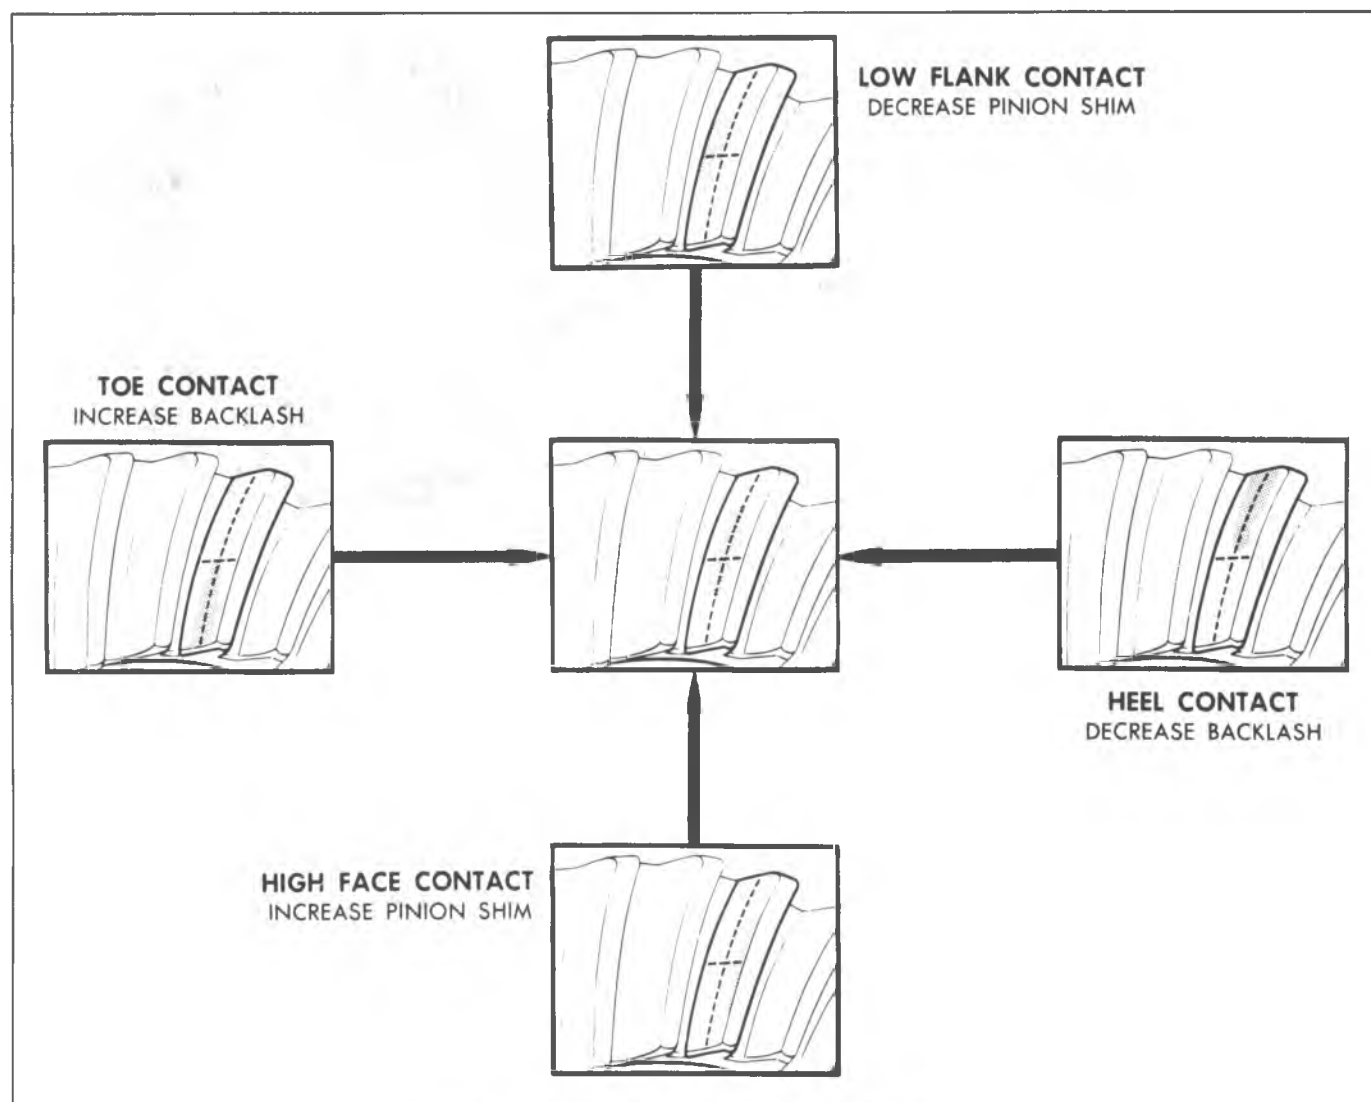

Fig. 13F—Gear Teeth Contact Pattern Check
5. Observe pattern on ring gear teeth and compare with figure 13F. Make adjustments as necessary.